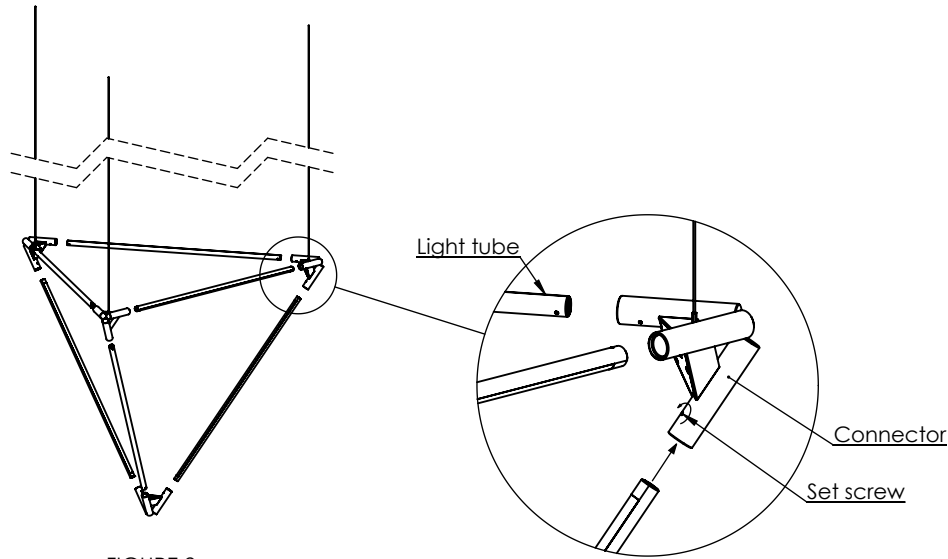

FIGURE 2
2. Insert Light tubes into the connectors as shown in FIGURE 2.